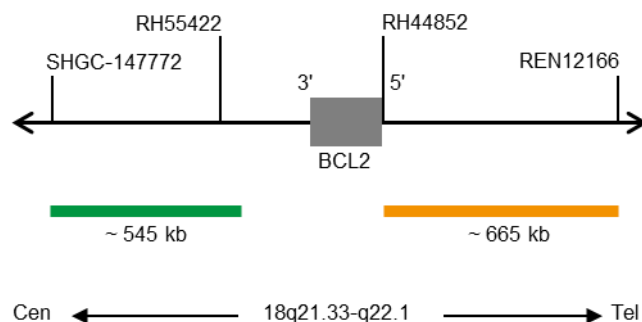

Fig. 1: SPEC BCL2 Probe map (not to scale)
- ZyGreen (excitation 503 nm/emission 528 nm) labeled polynucleotides (~10 ng/ μ l), which target sequences mapping in 18q21.33* (chr18:60,046,152-60,589,273) proximal to the BCL2 breakpoint region (see Fig. 1).
- ZyOrange (excitation 547 nm/emission 572 nm) labeled polynucleotides (~4.5 ng/ μ l), which target sequences mapping in 18q21.33-q22.1* (chr18:60,994,528-61,658,503) distal to the BCL2 breakpoint region (see Fig. 1).